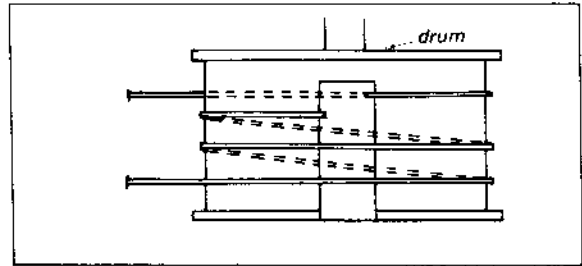

Fig. 2-8. Wrapping the dial cord
- 4. Run the cord over pulleys "B", "C" and "D", then wrap two clockwise turns around the drum from outer groove to inner groove as shown in Fig. 2-8.